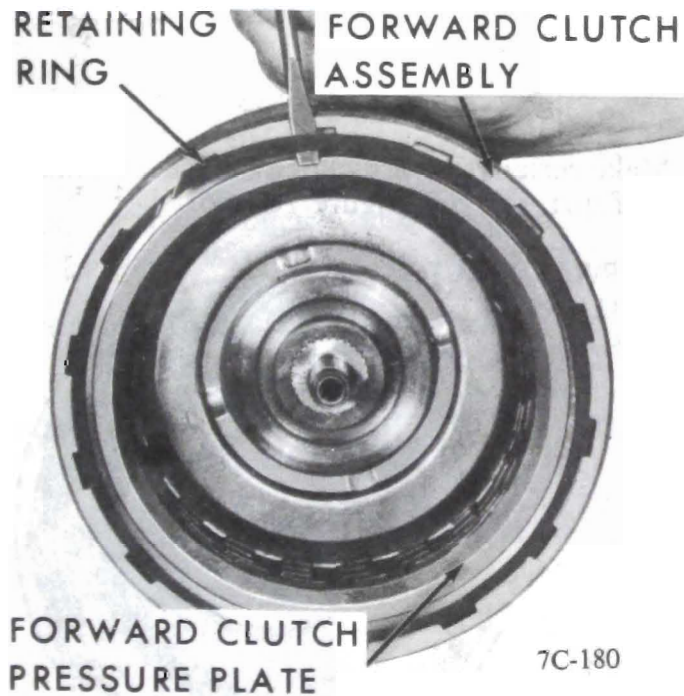

Figure 7C-180
Remove forward clutch pressure plate. See Figure 7C-180.
2. Remove five (5) forward clutch housing faced plates, five (5) steel plates and cushion spring. See Figure 7C-181.